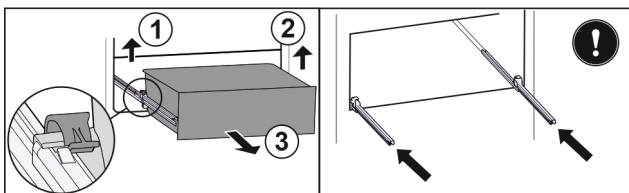

Fig. 61
- Lift left clamp and simultaneously pull drawer forwards on the left. Fig. 61 (1)
- Lift right clamp and simultaneously pull drawer forwards on the right. Fig. 61 (2)
- Remove drawer to the front. Fig. 61 (3)